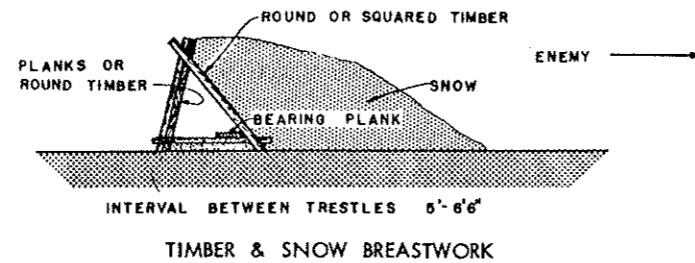

Figure 120.
1. What are the types of permanent and field fortifications in use (figs. 120 and 121)?